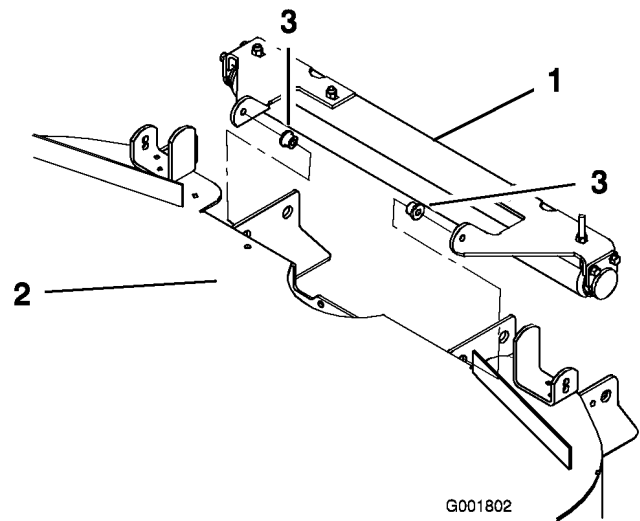

Figure 1
1. Insert a flange bushing into the front hole of each bracket on the back of the mower (Figure 1).
- Place the roller assembly around the brackets and flange bushings at the rear of the mower deck (Figure 1)